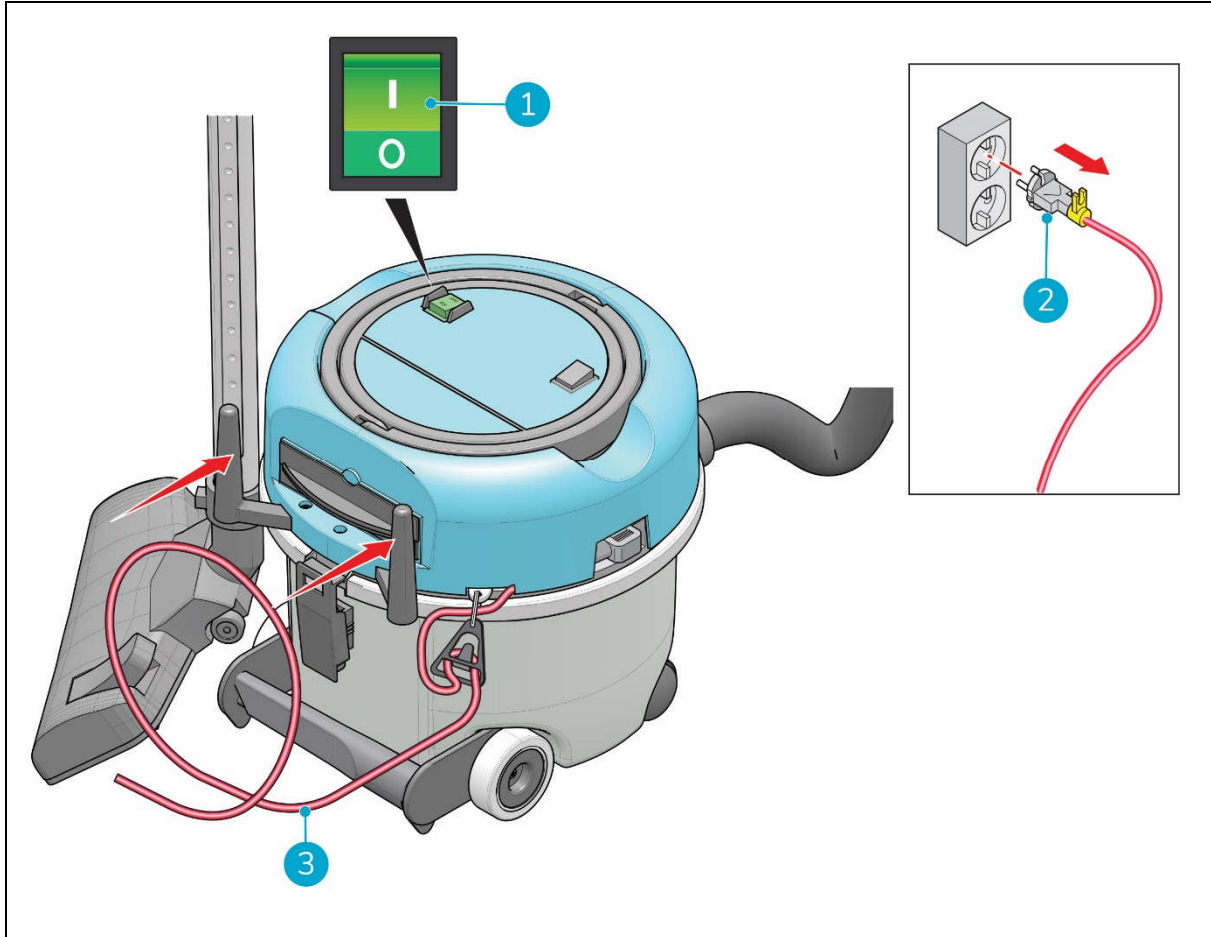

Figure 21
1. Press the ON /OFF switch (fig 21, pos 1) on the head of the i-vac 6® to turn it off.
2. Remove the main power cable from the wall socket. (fig 21, pos 2)
3. Wind the main power cable around the two cable storage hooks (fig 21, pos 3) on the side of the can, **starting from the machine side.**